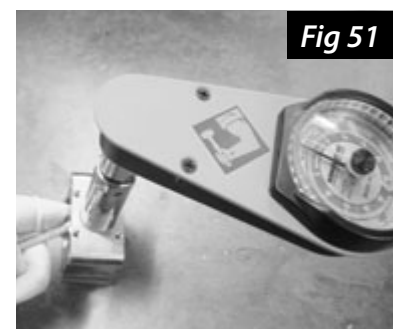

Fig 51
5. Wipe away any excess vacuum grease on the valve stem. Place a new stem lock nut onto the valve stem. Torque nut to 35 in-lbs with a torque wrench and 7/8" socket. Hold the valve stem in place by grasping the base of the stem on the inside of the valve body with a 5/16" or 8mm open-end wrench or an adjustable wrench (Fig 51). **WARNING: Over tightening the stem nut will cause the o-ring to wear prematurely and greatly reduce cycle life. Stem leaks may also result.**